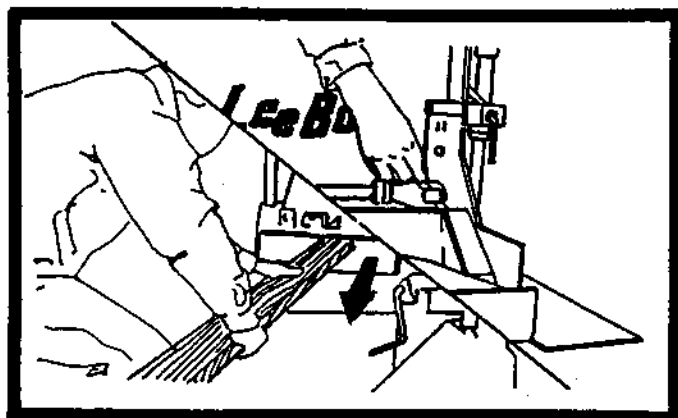

FIGURE 29
5. There are three grease fittings that should be greased daily with a good grade of multipurpose grease. Two fittings are on the outside end of each auger. See figure 29.
4. Clean screed insert. Remove screed insert by disconnecting extension cylinder and then pulling the screed straight out. See figure 29. (When needed)